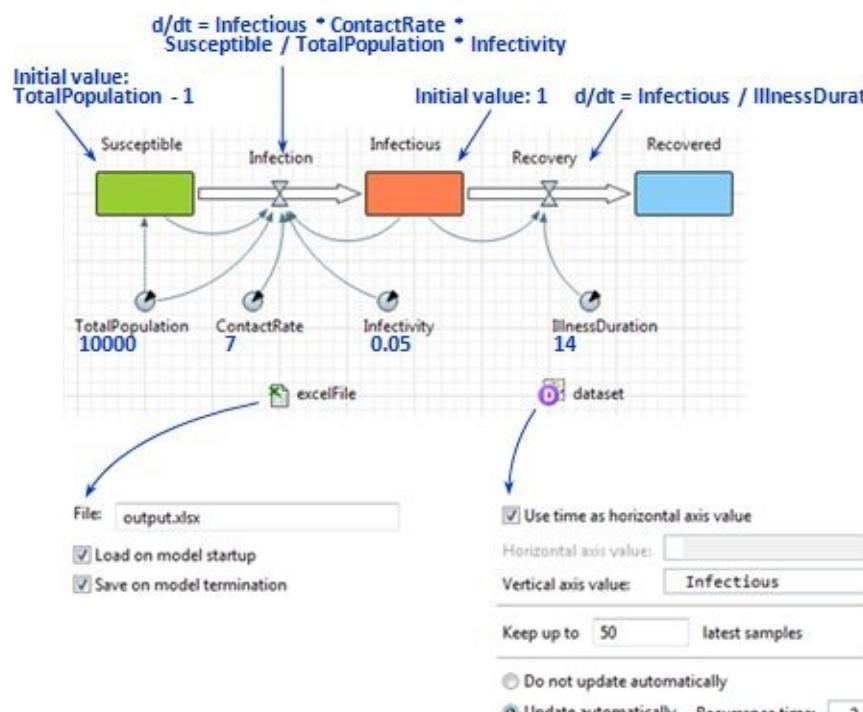

Figure 11.12 AnyLogic model set up to write the output data to the Excel file
2. Create a system dynamics model with three stocks: *Susceptible*, *Infectious*, *Recovered*, and parameters as shown in Figure 11.12.